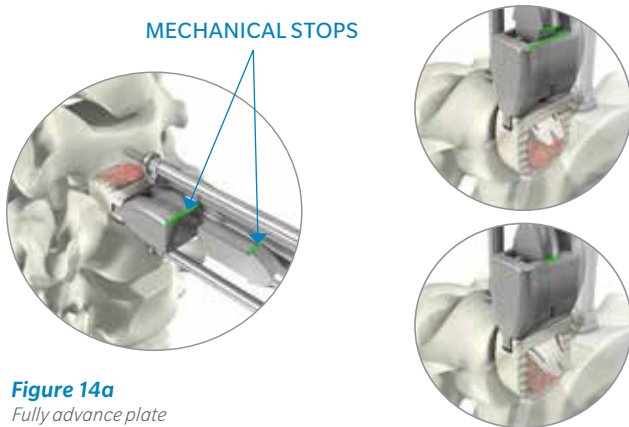

Figure 14a
- Use a mallet to impact the first plate into the bone. The plate is fully advanced when the mechanical stop on the impactor meets the mechanical stop of the implant holder (Figure 14a).